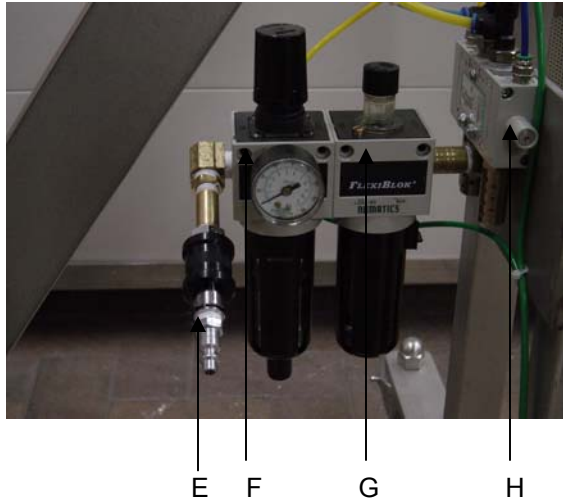

Fig 2
Once the air compressor has pressurized, and the airline is firmly connected to the inlet fitting, can the operator slide the on/off air valve (E) into the ON position. This will automatically pressurize the water separator (F), oiler (G) and the L series valve assembly (H) simultaneously. The main actuating cylinder will immediately move into position and depress the rear limit switch. The portioning piston will also move into the closed position and ready itself for introduction of batter. Place batter in hopper, and position pan on table directly under out feed block. See Fig 2.